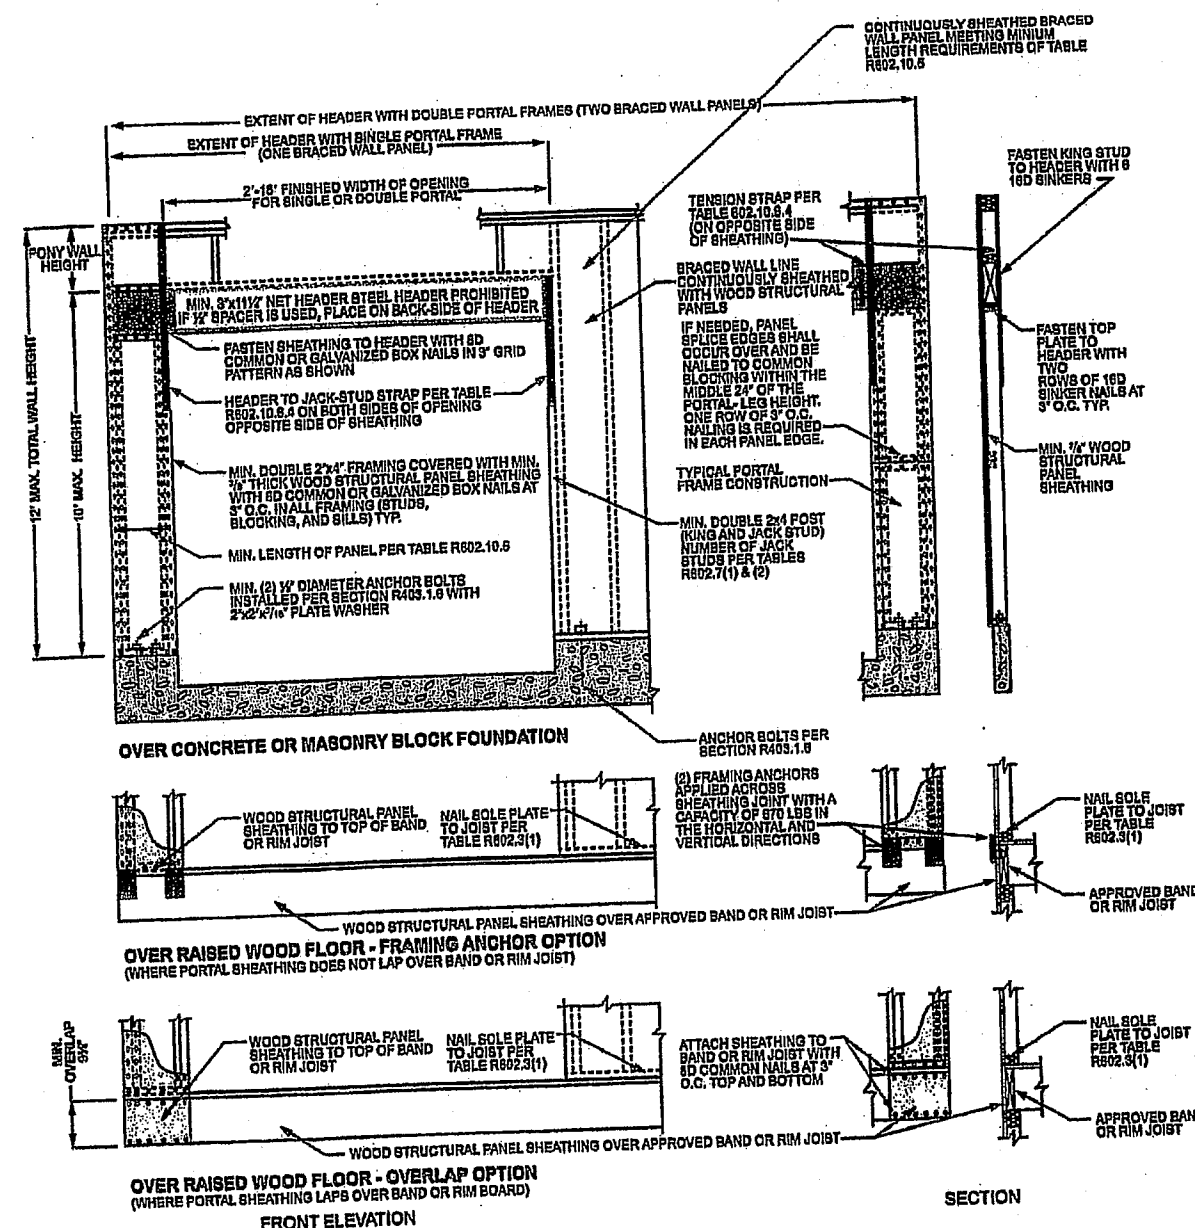

FIGURE R602.10.6.4
d. Maximum header height for PFH is 10 feet in accordance with Figure R602.10.6.2, but wall height shall be permitted to be increased to 12 feet with pony wall.
e. Maximum header height for CS-PF is 10 feet in accordance with Figure R602.10.6.4, but wall height shall be permitted to be increased to 12 feet with pony wall.